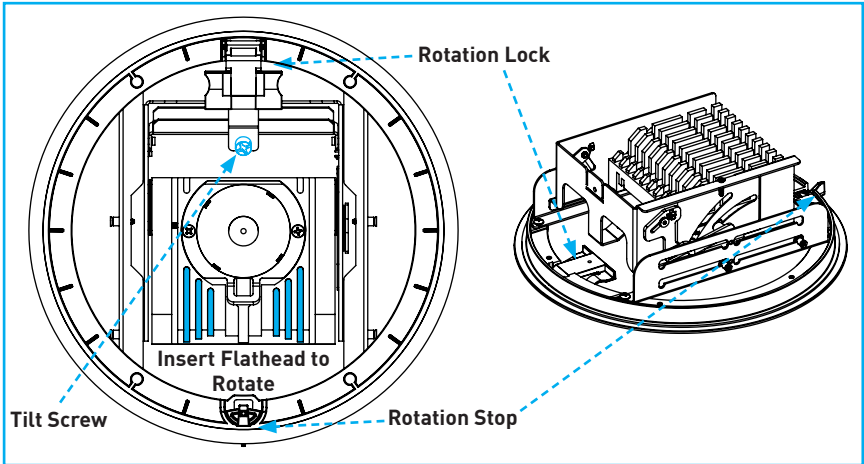
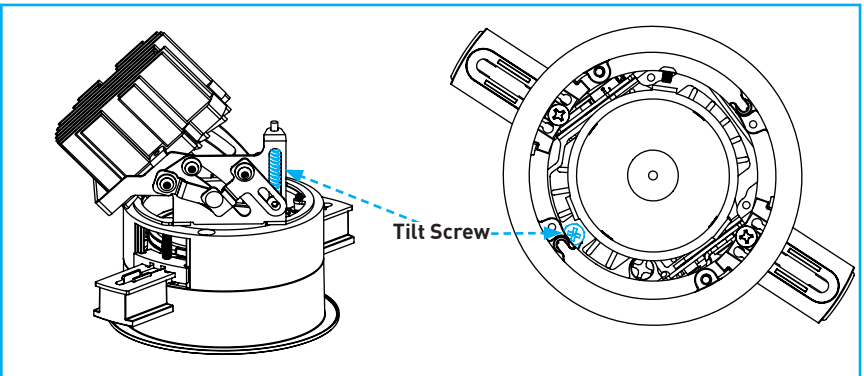

Fig. 57
Fig. 58
**Tilt:** Using a #1 Philips screwdriver, rotate tilt screw either located and labeled within the housing (Fig. 57), or adjacent to the heat sink on remodel trims (Fig. 58). Tilt screw can be adjusted both clockwise (downward) and counter-clockwise (upward) to achieve desired position.
**Rotation:** Locate rotation lock tab and lift upward to disengage. Utilizing a flathead screwdriver, carefully insert between heat sink fins to rotate LED assembly. Return rotation lock downward to secure. (Fig. 58).